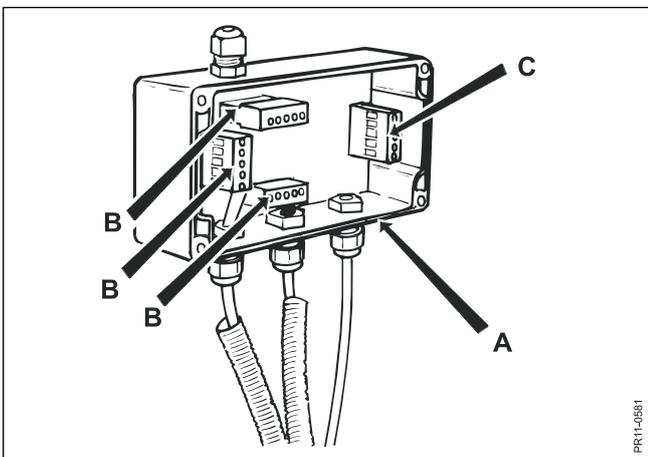

Fig. 9.10
**Fig. 9.10** When welding **never ever** let the current run through a weighing cell. Opening the connection box (A) and dismounting the outlet for the weighing cells (B) and the outlet for the instrument (C) prevents this.